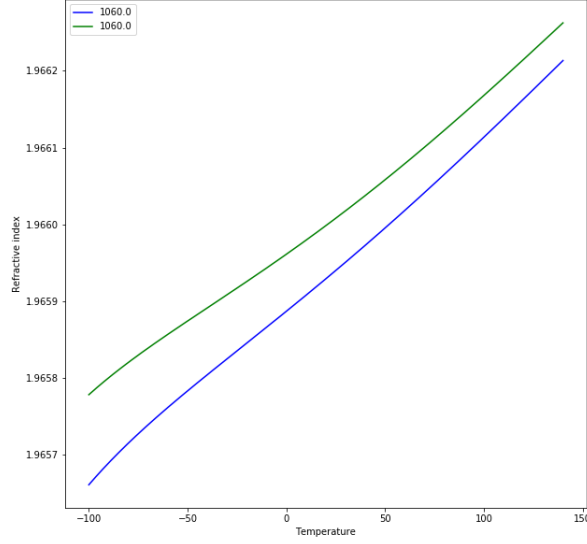
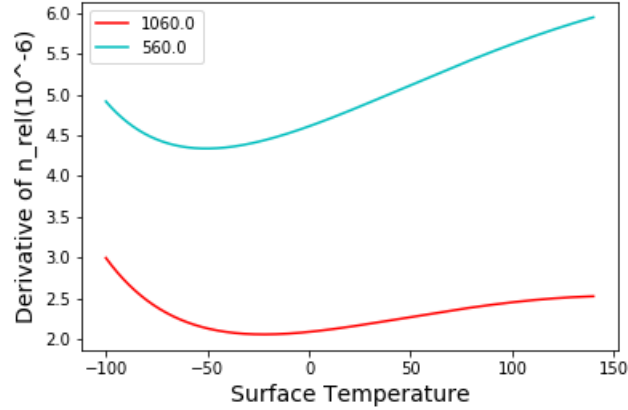

Figure 20: Green color for pressure at  $P=90000$  Pa and Blue color for pressure  $P = 103250$  Pa
Figure 21: rate is changed drastically at temperature around -50 celcius
Now refractive index at any given temperature and pressure is calculated from equation (30). In catalog, S-LAH99 has reference temperature 25 celcius and I found the refractive index at temperature 40 celcius at pressure 103250 Pa. It gave the answer at wavelength 1060 nm around 1.965973023911095. And at reference temperature with one atmospheric pressure is 1.9659499406949175. But if we keep temperature constant and decrease the pressure at 90000 Pa of surrounding then value is 1.9660378094776565. As we can see from data for refractive index at constant temperature but different pressure gives the different values. Reason for this trend is same as for N-BK7. Now the plot between refractive index for particular wavelength with temperature is in figure 20. For S-LAH99, the refractive is increasing with increasing of temperature. Now fourth plot is between change of rate of derivative of relative refractive index with temperature at pressure 103250 Pa. This gives the rate at which relative refractive index changes with temperature. In the figure 21, the rate is decreasing till -50 celcius and increasing after that. So these are all analysis of